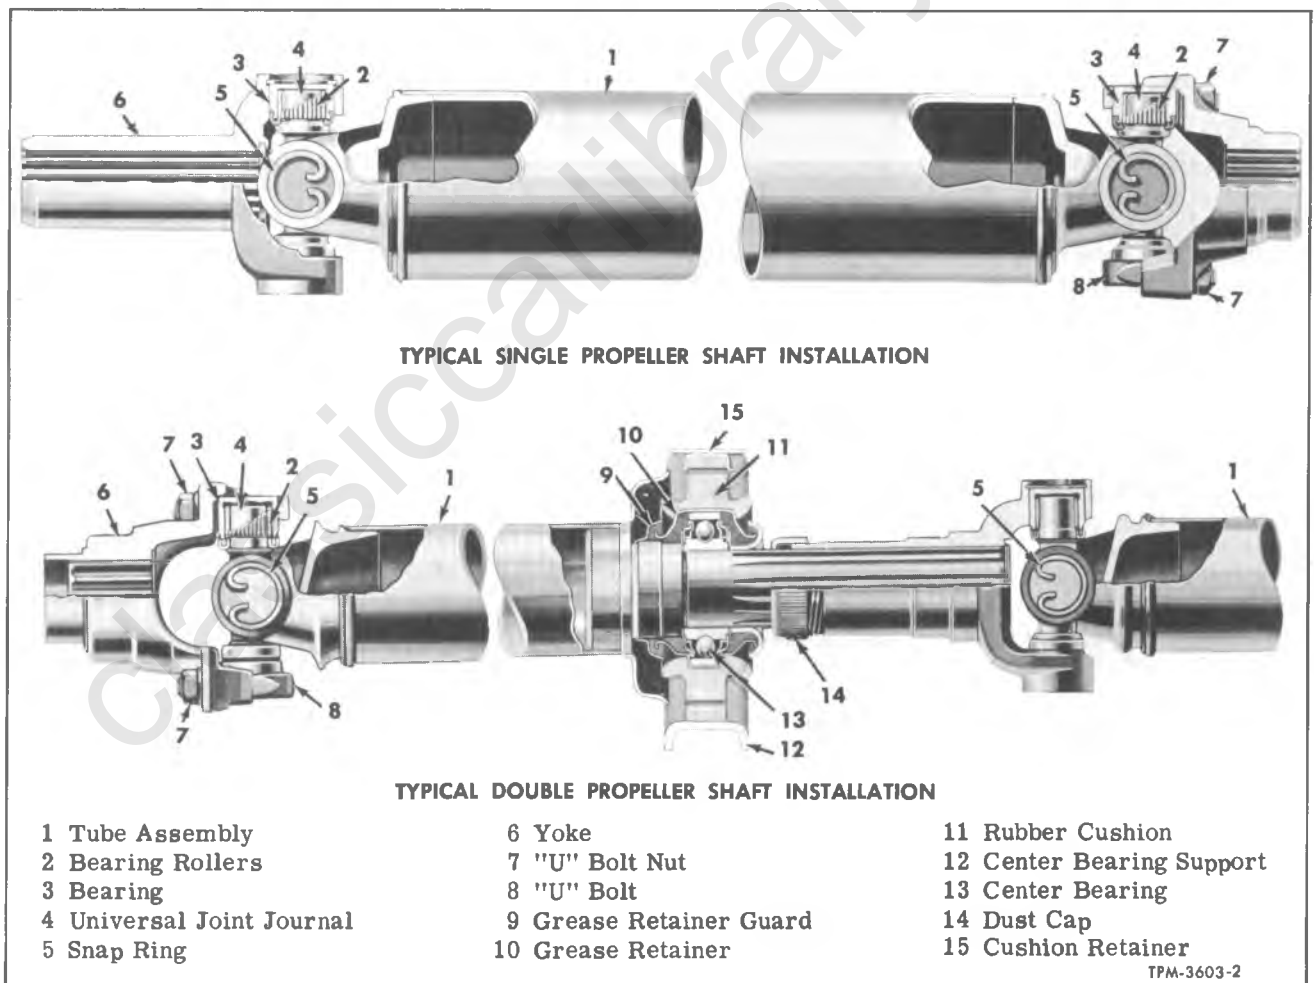

Figure 1—Typical Propeller Shaft and Universal Joints
Power is transmitted from transmission to rear axle through one or more propeller shaft and universal joint assemblies (fig. 1). The number of propeller shafts and universal joint assemblies vary with vehicle wheelbases and combination of transmission and rear axle equipment.
PROPELLER SHAFTS (Fig. 1)
UNIVERSAL JOINTS (Fig. 1)
1. On universal joints using snap rings to retain bearings on journal cross, remove snap rings (fig. 1).
2. On universal joints using U-bolts to retain bearings on journal cross, remove nuts and washers from U-bolts, then remove U-bolts (fig. 1).